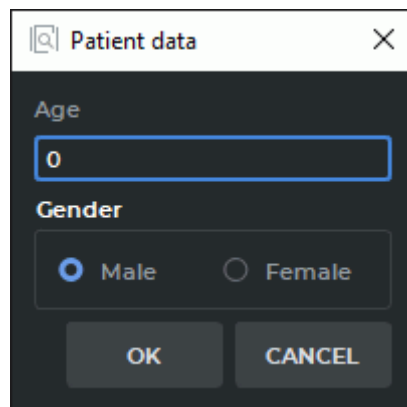

Figure 2.75: Patient data entry dialog
3. Activate the  **Calcium scoring (ellipse)** tool or  **Calcium scoring (polygon)**. These tools are similar to **ROI ellipse** and **ROI polygon** (see Section 2.18.5). If the study does not contain information about the age and/or gender of the patient, the dialog shown in Fig. 2.75 appears. Enter missing information and click **OK** to continue or **CANCEL** to cancel the measurement. After clicking **OK**, this dialog no longer appears until the Flat image viewer window is closed. To change the gender and/or age of the patient, close the Flat Images View window and return to step 1.